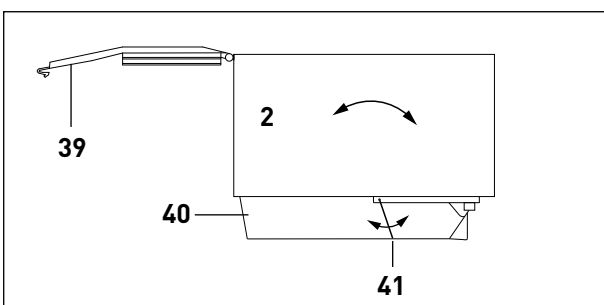

Figure 16
There is a non-return flap (41) in the air duct (40) on the bottom of the dust container (figure 16). Check this flap for free movement every time the dust container is emptied. It should move freely when the dust container is shaken back and forth. If this flap is blocked by debris, the air path will be obstructed resulting in poor suction.
Remove the Dust Container (see page 11). There is a non-return flap (41) in the air duct (40) on the bottom of the dust container (figure 16). Check this flap for free movement. It should move freely when the dust container is shaken back and forth. If this flap is blocked by debris, the air path will be obstructed resulting in poor suction, and should be cleaned out.